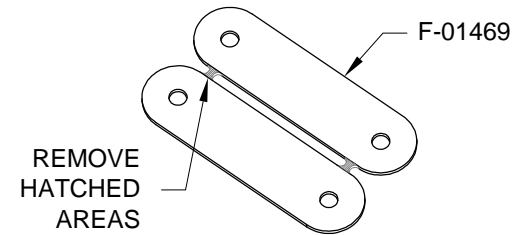

FIGURE 1: TAILPIPE HANGER LINKS
Step 1: Separate the F-01469 Tailpipe Hanger Links as shown in Figure 1.
Step 2: Verify the bend angle of the F-01465 Hanger Angles using the Hanger Angle Template found on Page 48-09, Figure 1. If necessary, modify the hanger angles as shown in the right detail view in Figure 2.